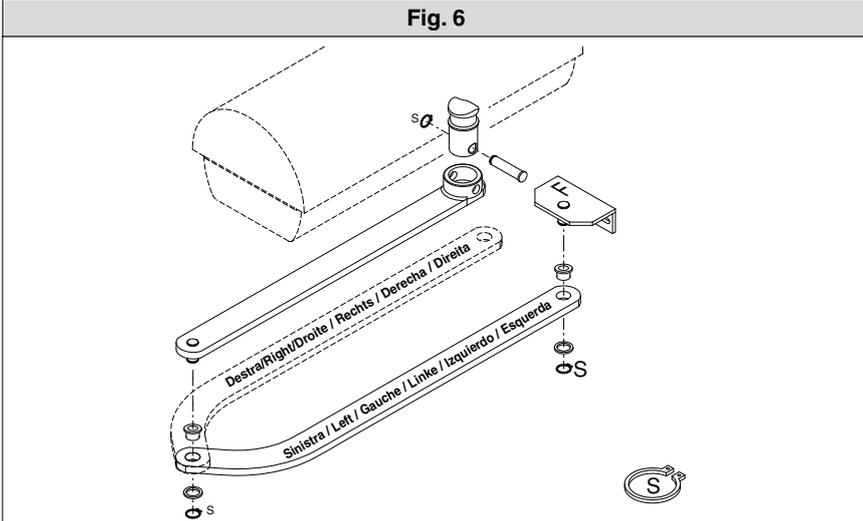

Fig. 7
- Insert the square of the first lever in the output shaft of the gearmotor and fasten it (fig.7).